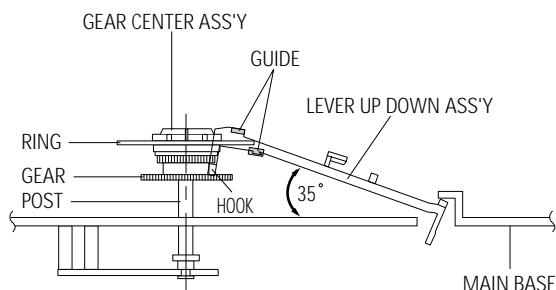

Fig. 4-27 Lever Up Down Ass'y Removal
- 1) Insert the Lever Up Down Ass'y ① in the rectangular holes on Main Base as shown in Fig 4-27.
- 2) Lift the Lever Up Down Ass'y ① about 35°. (Refer to Fig 4-27)
- 3) Insert Ring of the Gear Center Ass'y ② in the Guide of the Lever Up Down Ass'y ①.
- 4) Insert the Gear Center Ass'y ② in the post on Main Base.
- 5) Push down the Lever Up Down Ass'y ① for locking of the Hook.